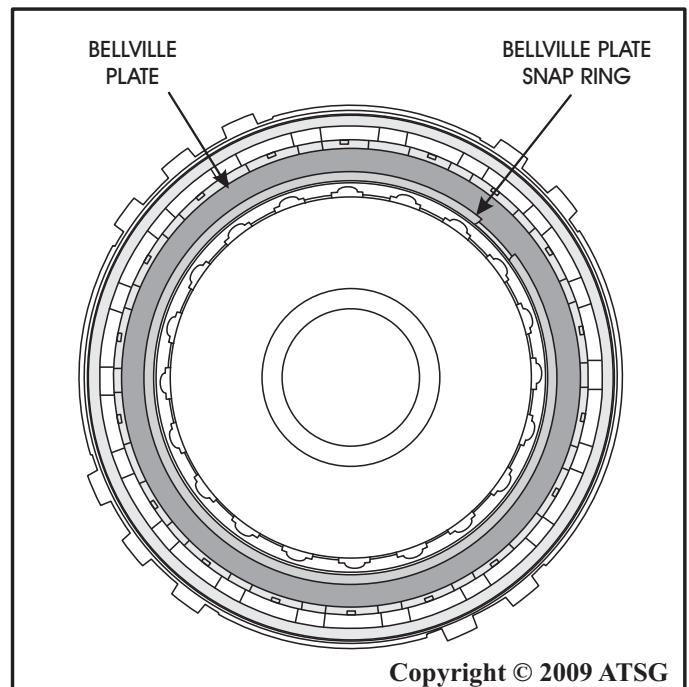

Figure 63
6. Position the 2nd clutch bellville plate snap ring on top of the bellville plate (See Figure 63).
7. Using a suitable shop press, compress bellville spring until the snap ring is engaged into the snap ring groove in the 2-4 retainer, and ensure that it is fully seated as shown in Figure 63.